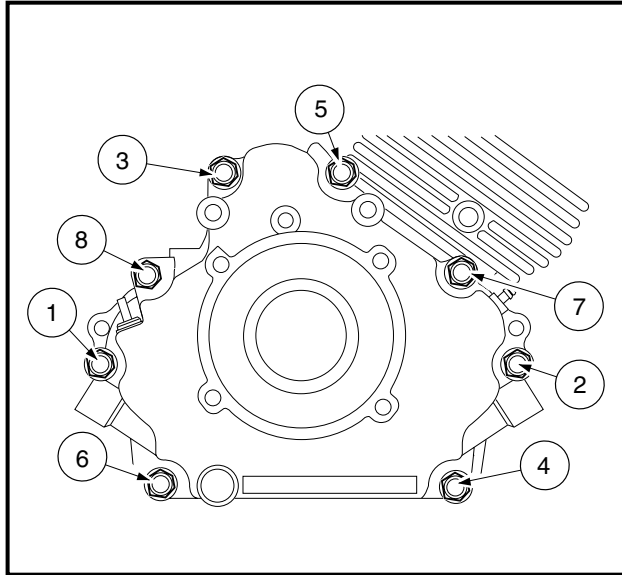

Figure 13-10 Crankcase Cover Installation
3. Install and finger tighten evenly the eight cover mounting bolts (**Figure 13-10, Page 13-9**).